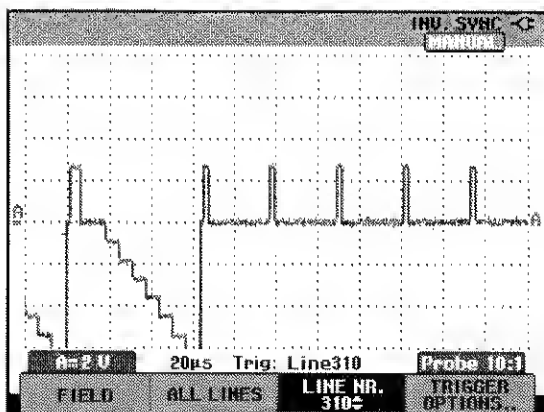
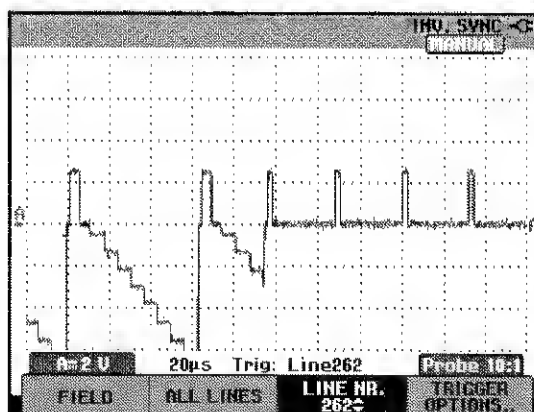

Figure 4-14. Trace for PAL/SECAM line 310 Negative Video
Figure 4-15. Trace for NTSC line 262 Negative Video
10. Observe the trace, and check to see if the test tool triggers on line number 310 (PAL or SECAM, see Figure 4-14), or line number 262 (NTSC, see Figure 4-15).